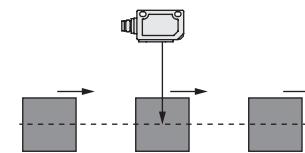

Fig. 4: Setting the switching point
- The sensor got to know the distance to the object at the teach-in stage. For objects that move into the sound field from the side (see Fig. 4), an 8-10 % greater distance should be set for reliable object detection by the sensor.